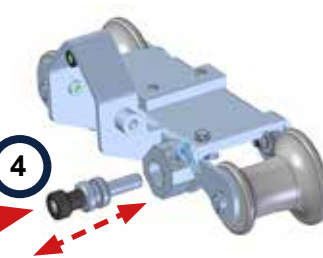

Figure 78.
**Lifting handles see "Figure 78."**